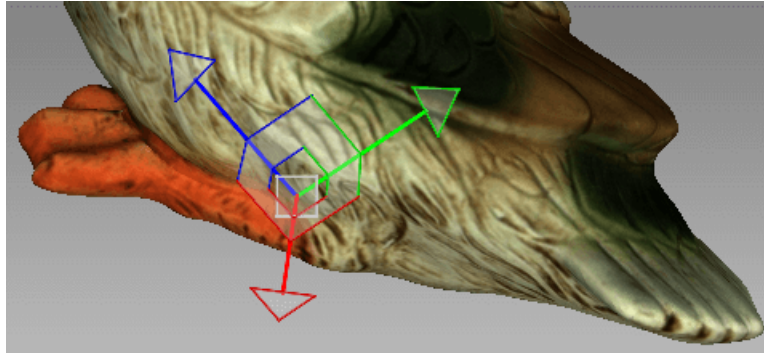

Figure 152: Translation control
- Translate the object in the *3D View* window by dragging the corresponding control (see Figure 152):